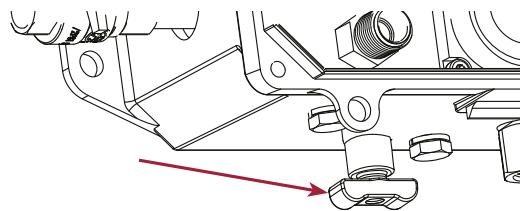

Figure 211: Early TIREMAAX Petcock
- 2a. Early TIREMAAX systems have a petcock either underneath the controller box or at the outlet going to the tyres. Refer Figure 211.